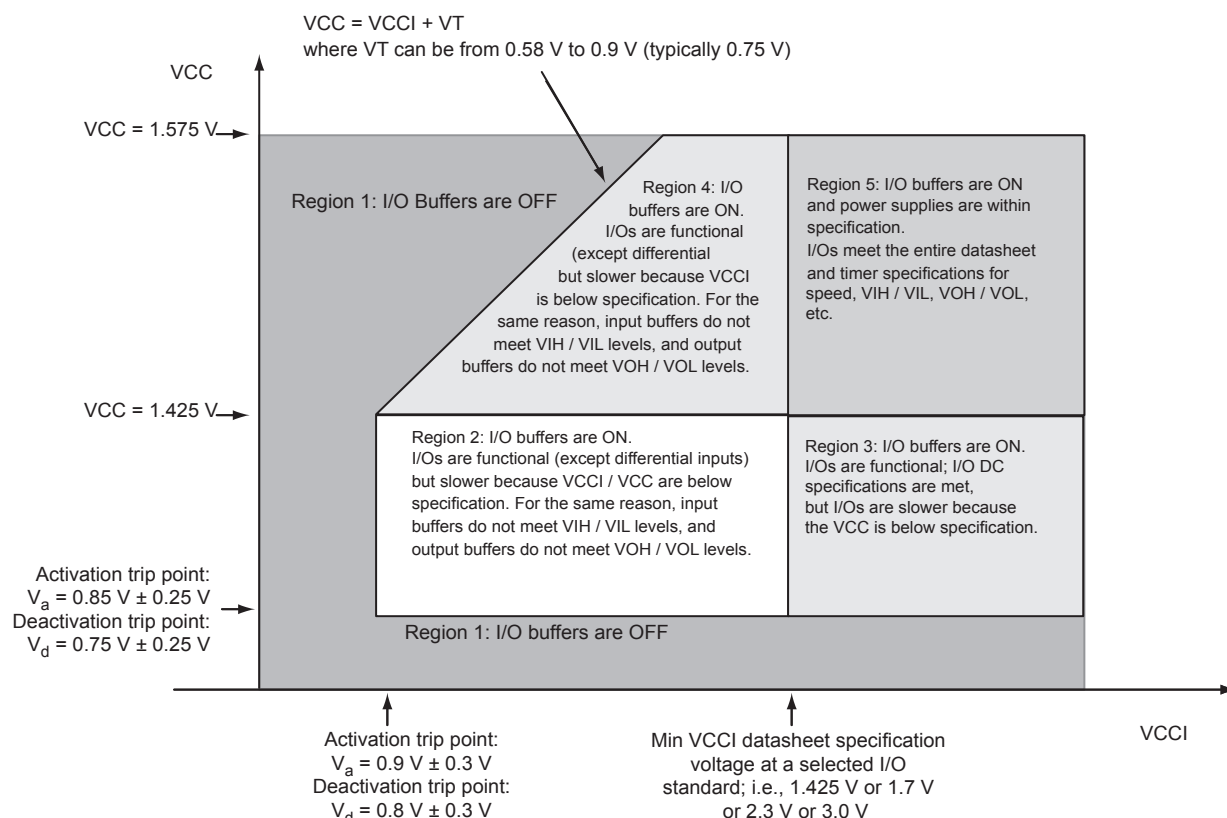

Figure 2-2 • I/O State as a Function of VCCI and VCC Voltage Levels
Sophisticated power-up management circuitry is designed into every ProASIC[®]3 device. These circuits ensure easy transition from the powered-off state to the powered-up state of the device. The many different supplies can power up in any sequence with minimized current spikes or surges. In addition, the I/O will be in a known state through the power-up sequence. The basic principle is shown in Figure 2-2 on page 2-4.
1. VCC and VCCI are above the minimum specified trip points (Figure 2-2 on page 2-4).